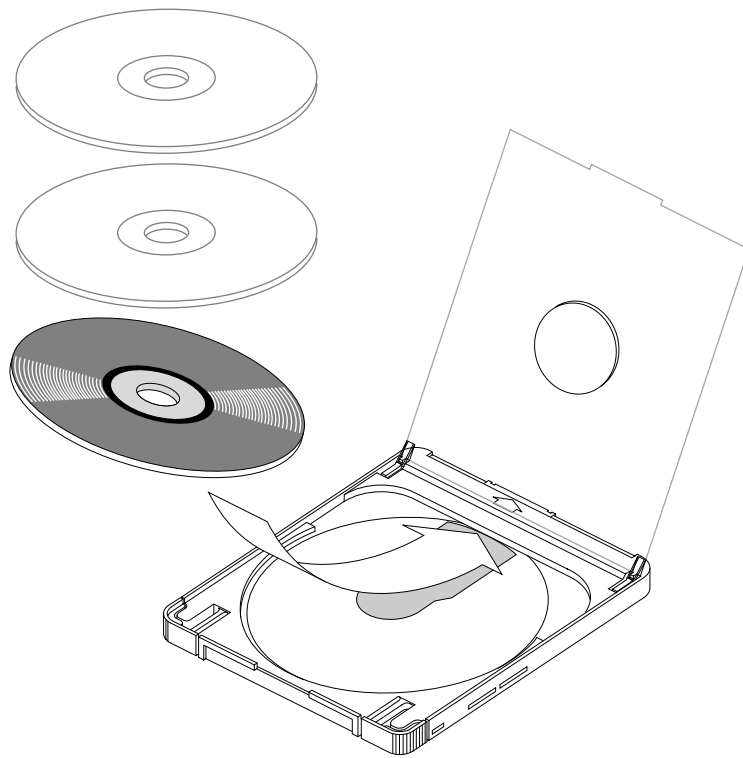

Figure 4-8 Loading a Disc Into the CD-ROM Caddy
4. Tilt the CD-ROM into the caddy, as shown in Figure 4-8. The CD-ROM fits under the groove at the end of the caddy.